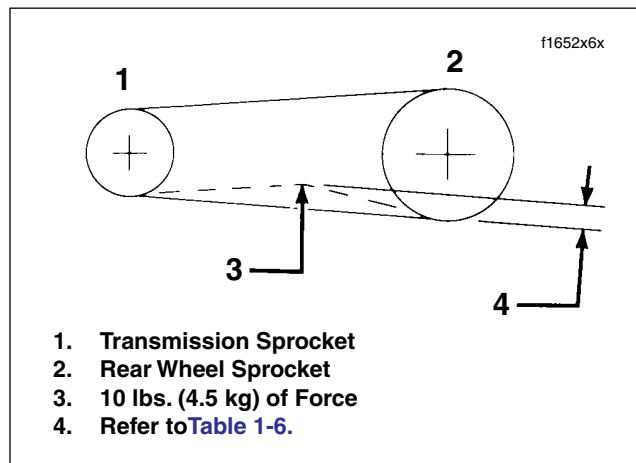

Figure 1-14. Check and Adjust Belt Deflection
3. Apply 10 lbs. (4.5 kg) of force at the midpoint of the bottom belt strand. See Figure 1-14. Check deflection at the loosest spot in the belt with the transmission in neutral and the motorcycle cold. Belt deflection should be as follows: